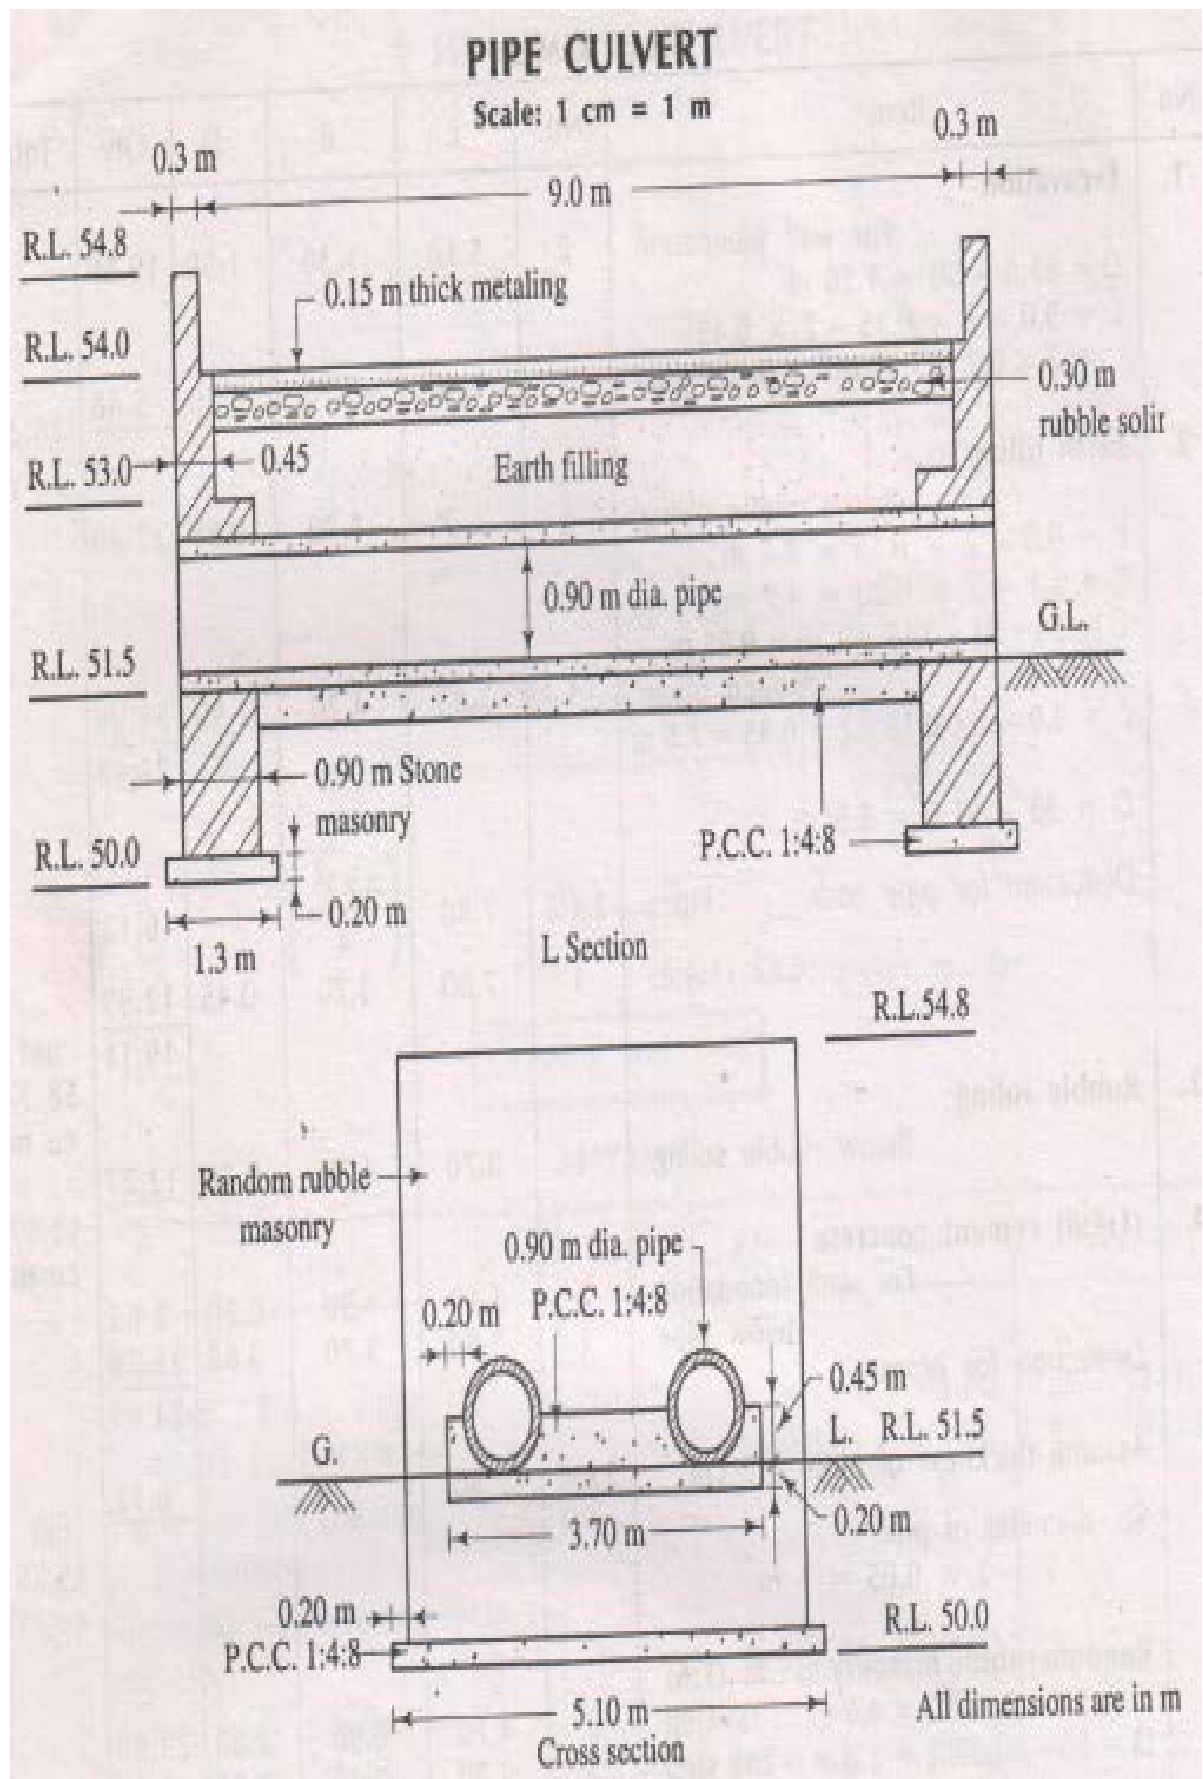

Figure 1:- PIPE CULVERT
- (c) Calculate the quantities of (1:4:8) cement concrete from figure 1 04
- (d) Calculate the quantities of excavation from figure 1 04
- (d) Calculate the quantities of random rubble masonry in C.M (1:6) from figure 1 04